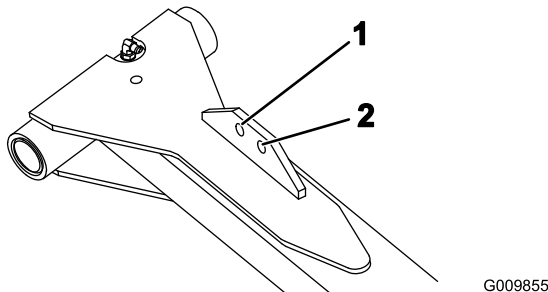

Figure 7
8. Secure the other end of the lift chain to the hole in the lift arm mounting tab with clevis pins and cotter pins. Use the appropriate hole in the lift arm as designated in Figure 7.